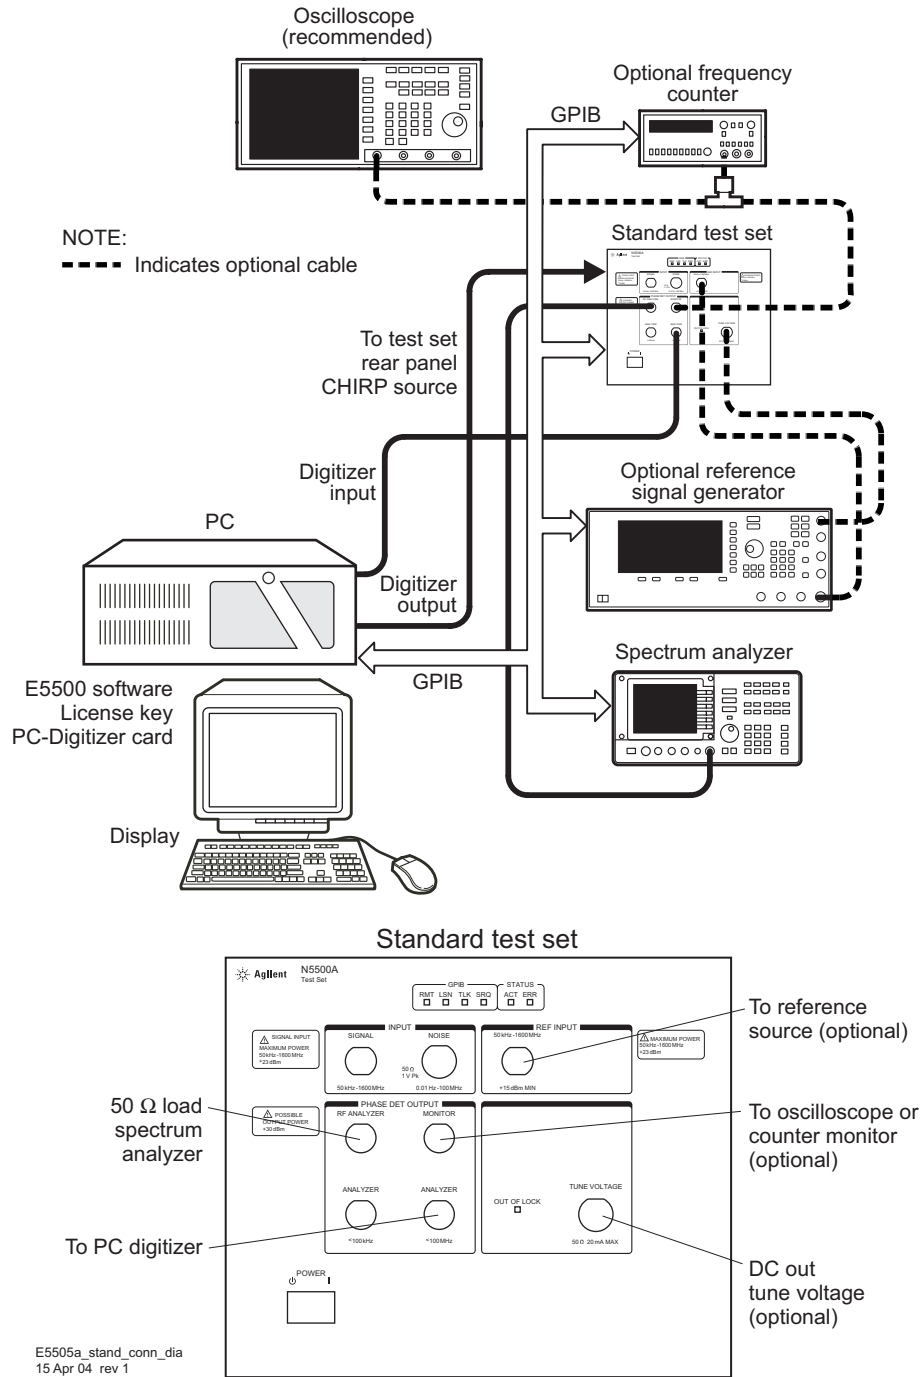

Figure 307 E5505A system connections with standard test set
- 4 Connect cables to other instruments with the appropriate connectors and adapters, using the tables and diagrams in this section. (Refer to Figure 307 on page 401 through Figure 309 on page 403.)